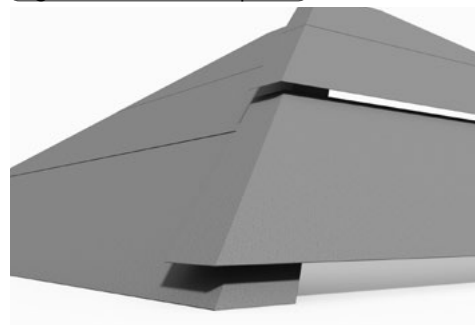

fig 7: Hip laps
7. The Danelaw LR150TT should extend over any hips and overlap the underlay on the opposite side of the hip by not less than 150mm beyond the junction line (fig. 7). Alternatively, lay a strip not less than 600mm wide along the length of the hip and over the underlay on either side.